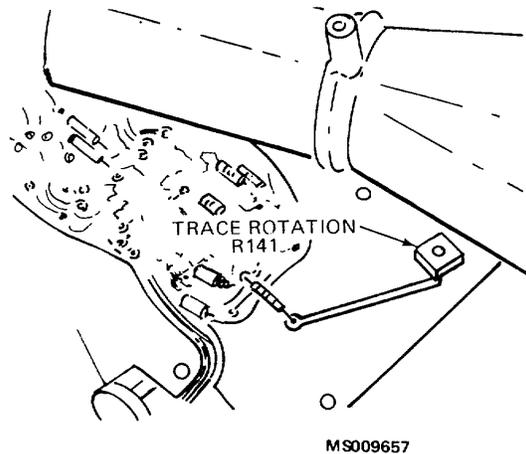

Figure 4-2. Location of Trace Rotation adjustment.
- c. ADJUST-Trace Rotation, R141 (see Fig. 4-2) so the trace is parallel with the center horizontal graticule line.